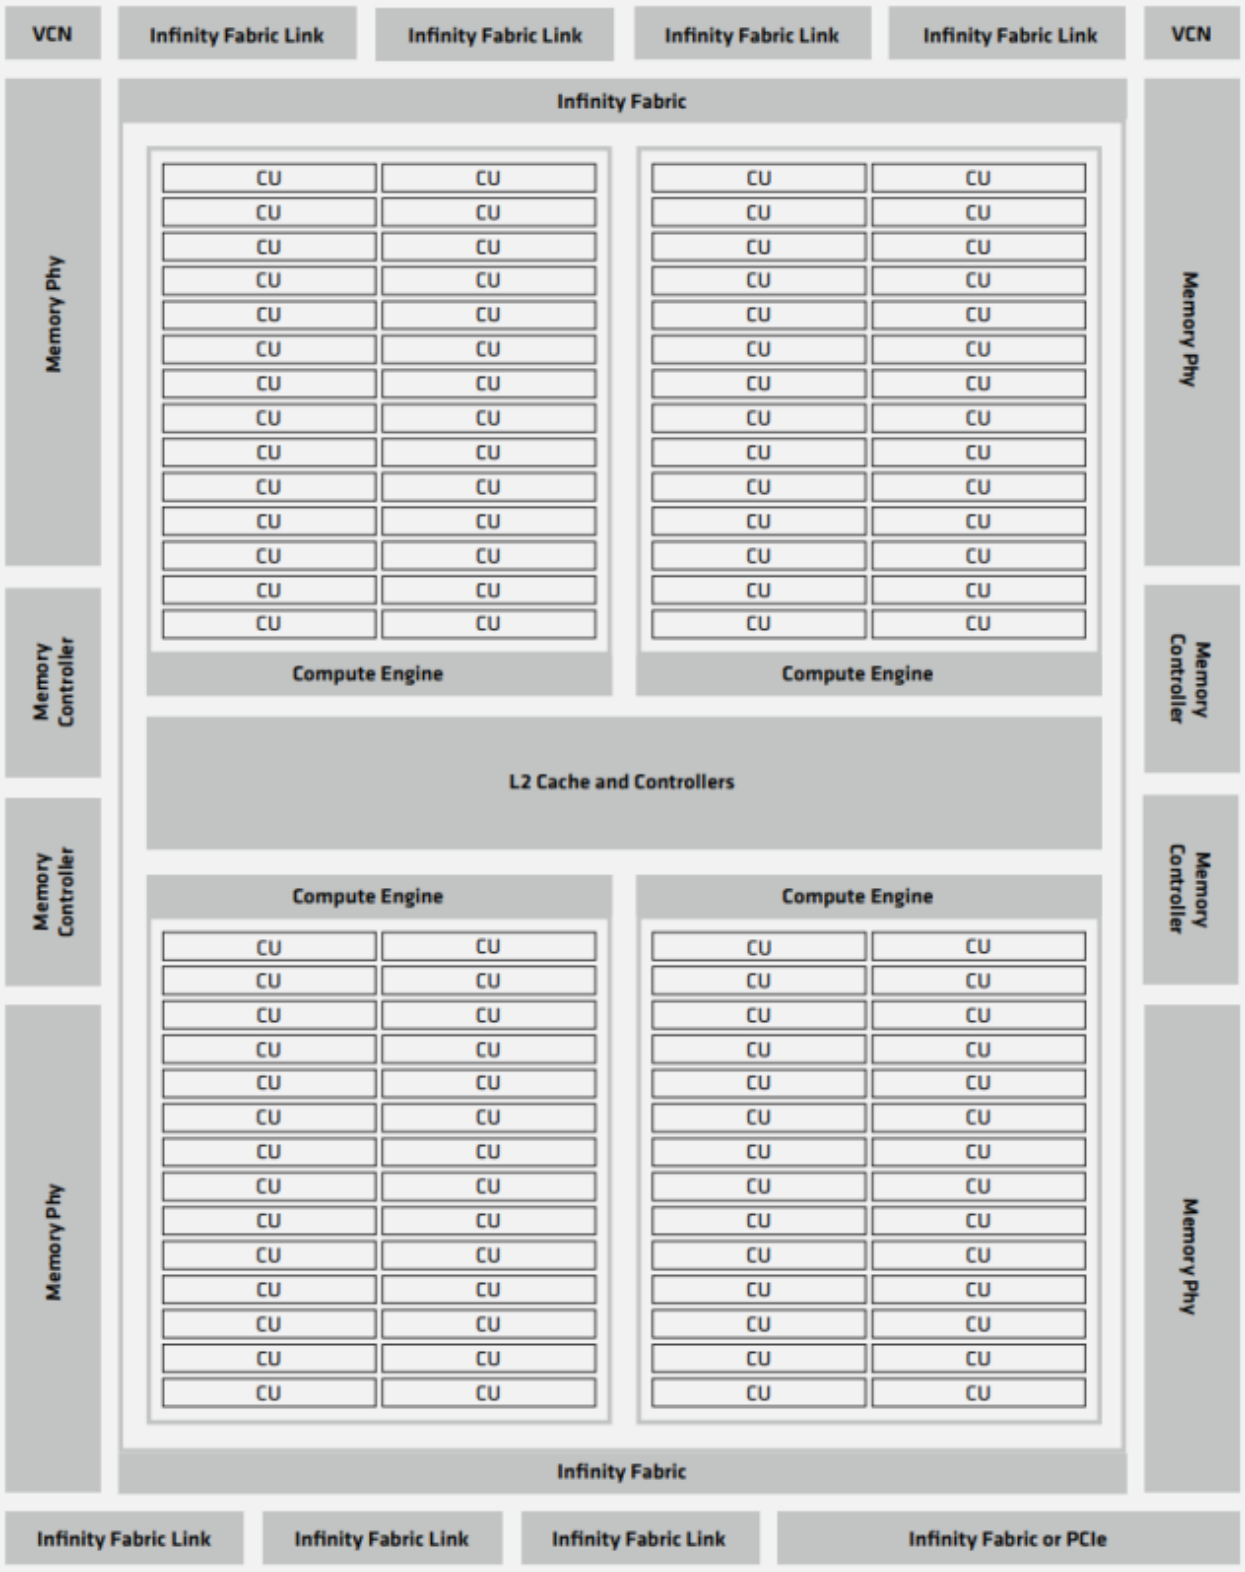

Fig. 30.1: Figure 1: Structure of a single GCD in the AMD Instinct MI250 accelerator.
Fig. 30.1 shows the components of a single Graphics Compute Die (GCD) of the CDNA 2 architecture. On the top and the bottom are AMD Infinity Fabric™ interfaces and their physical links that are used to connect the GPU die to the other system-level components of the node (see also Section 2.2). Both interfaces can drive four AMD Infinity Fabric links. One of the AMD Infinity Fabric links of the controller at the bottom can be configured as a PCIe link. Each of the AMD Infinity Fabric links between GPUs can run at up to 25 GT/sec, which correlates to a peak transfer bandwidth of 50 GB/sec for a 16-wide link (two bytes per transaction). Section 2.2 has more details on the number of AMD Infinity Fabric links and the resulting transfer rates between the system-level components.
The execution units of the GPU are depicted in Fig. 30.1 as Compute Units (CU). The MI250 GCD has 104 active CUs. Each compute unit is further subdivided into four SIMD units that process SIMD instructions of 16 data elements per instruction (for the FP64 data type). This enables the CU to process 64 work items (a so-called “wavefront”) at a peak clock frequency of 1.7 GHz. Therefore, the theoretical maximum FP64 peak performance per GCD is 45.3 TFLOPS for vector instructions. The MI250 compute units also provide specialized execution units (also called matrix cores), which are geared toward executing matrix operations like matrix-matrix multiplications. For FP64, the peak performance of these units amounts to 90.5 TFLOPS.